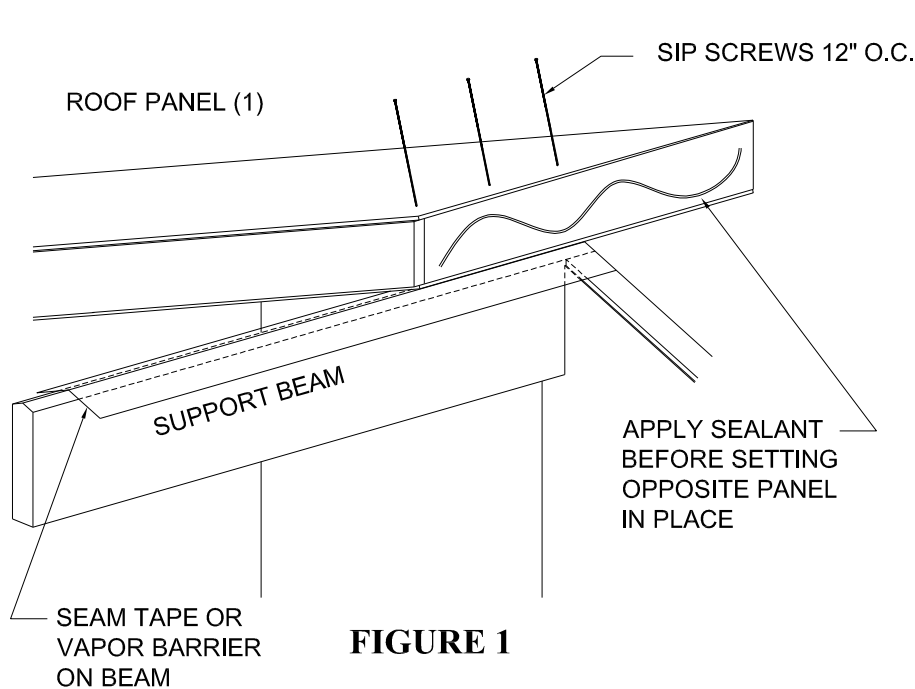

FIGURE 1
4. Apply sealant to panel #2 as shown in Figure 1.